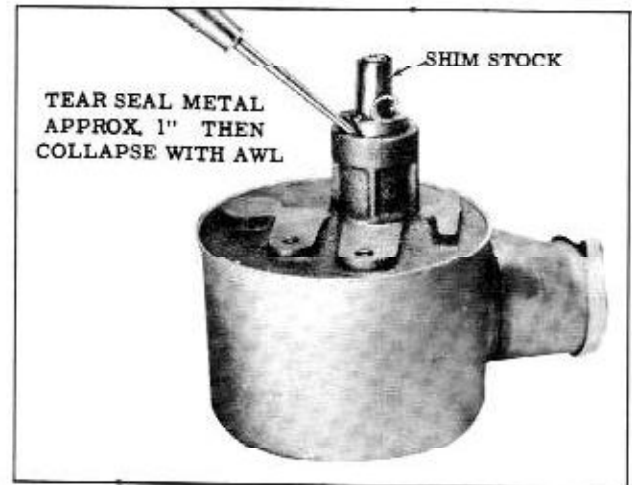

Fig. 4-22 Removing Seal
3. Tear metal body approximately 1" with diagonals. Force an awl between the pump body and the O.D. of seal to collapse the seal, then pry seal from pump body. (Fig. 4-22) Remove shim stock.